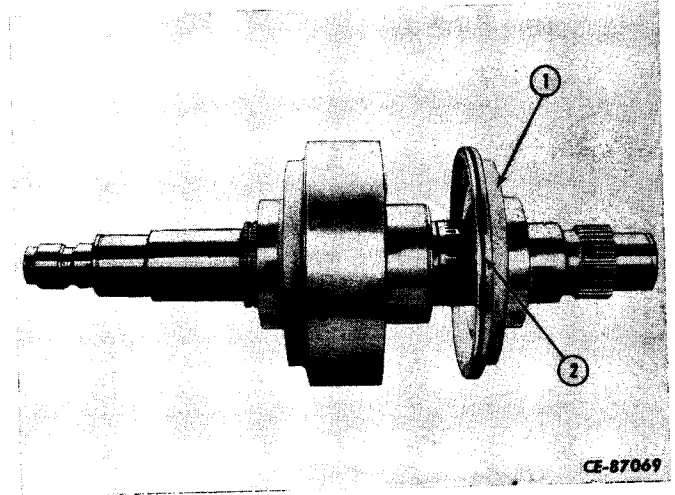

Figure 4-33
Remove clutch piston (1, Fig. 4-33) and rectangular seal ring (2). Remove special tool.